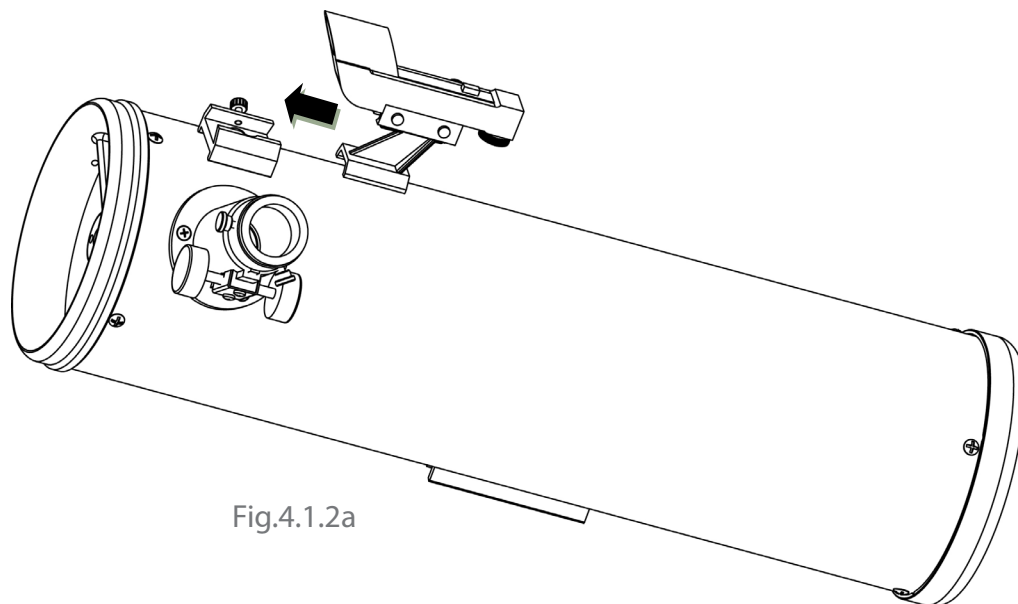

Fig.4.1.2a
2. Attaching the red dot finder(Fig.4.1.2a)